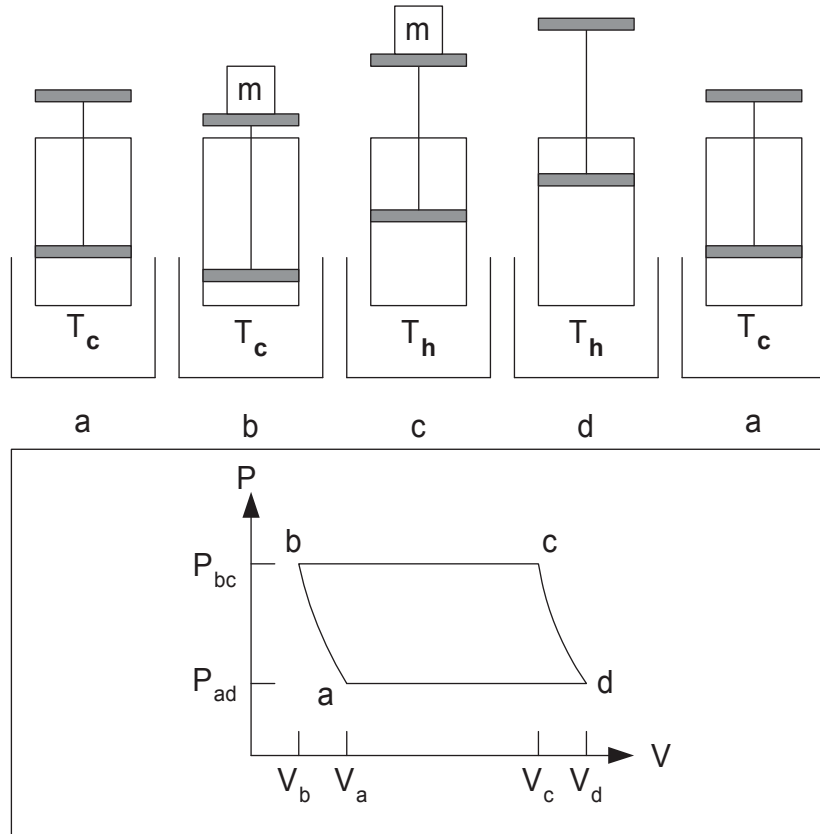

Figure 9.2: Engine cycle and  $P - V$  diagram.
temperature in a container with a piston, warming the gas will raise the piston and a mass placed on top of it, thereby converting thermal energy to mechanical energy. An *engine* operates in a *cycle*; the mass must be removed and the gas cooled to return it to its starting point for a complete cycle. Figure 9.2 illustrates this simple engine cycle and a corresponding  $P - V$  diagram. We can assume that the  $a \rightarrow b$  segment, adding
- (c) Gently place the 100 g mass on the piston. Watch the  $P - V$  graph.  $P$  should increase, while  $V$  decreases, like adiabat  $a \rightarrow b$  of Fig. 9.2.
- (d) Immediately, move the air chamber into the hot water bath.  $V$  should rise, but  $P$  should remain constant, like the  $b \rightarrow c$  isobar of Fig. 9.2; constant pressure, with increasing temperature gives a volume increase. Leave the air chamber in the hot bath until the volume increase stalls.
- (e) Gently remove the 100 g mass from the piston.  $P$  should decrease, while  $V$  increases, like the  $c \rightarrow d$  adiabat of Fig. 9.2.
- (f) Immediately move the air chamber into the cold bath, and leave it there for now.  $P$  should remain constant and  $V$  should decrease, like the  $d \rightarrow a$  isobar of Fig. 9.2. Everything working OK? If not, get help. Click on the **STOP** button to end the trial run.